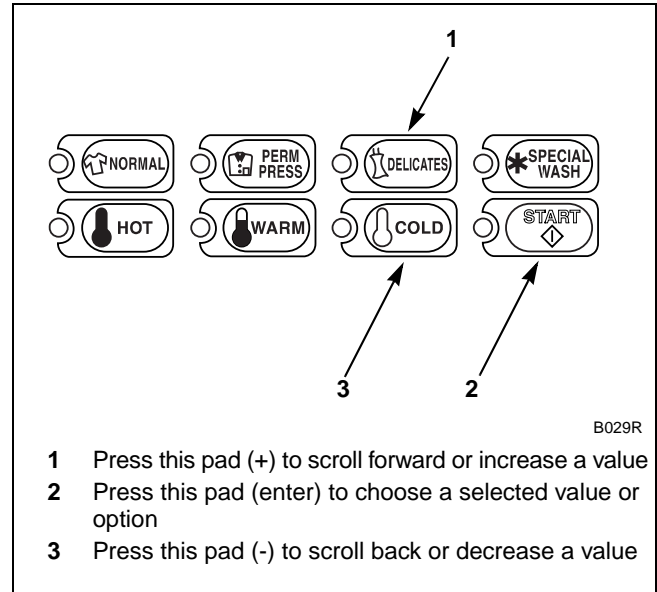

Figure 161
5. Press the DELICATES (+) or the COLD (-) keypad to increase or decrease the current number of minutes displayed in the VFD to the desired number of minutes. Refer to *Figure 161*.
**NOTE: The Delicates Rinse #1 Fill/Tumble Time can be set from zero (0) to 15 minutes.**